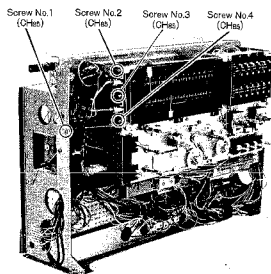

Fig. 14
5. Remove the four (4) front chassis screws (nos. 1~4), as shown in fig. 14.